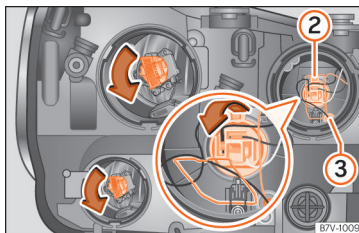

Fig. 63 Left headlight.
- Press the wire clip downwards and pull the bulb holder  **Fig. 63 ②** out together with the bulb.
- Pull the bulb holder  **Fig. 63 ③** out backwards together with the bulb.